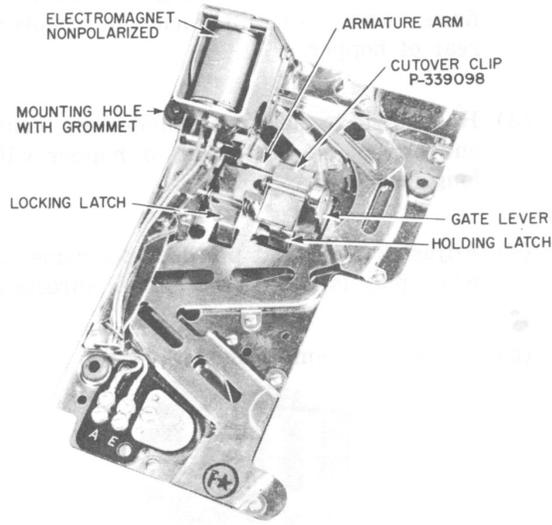

Fig. 12 — Prepay Steel Coin Chute (Equipped with Cutover Clip for 5-Cent Service)
- (1) Place coin relay shield on coin relay.
- (2) With upper housing locked in place and handset off-hook, deposit nickel. Nickel shall be held at holding latch. Lower switchhook slowly. Coin shall drop into coin return. Make test five times.
- (3) If coin collector is equipped with washer reject and coin release mechanism, test with handset off-hook. Deposit nickel. Nickel shall be held at holding latch. Operate pushbutton slowly. Nickel shall be released by gate and drop into coin return. Make test five times.
- (4) With handset off-hook, deposit nickel. Nickel shall be held at holding latch. Deposit second nickel. Second nickel shall release first nickel and permit both coins to pass through coin chute, strike gong, and trip trigger as they drop into hopper. Dial tone shall be heard at dial stations, or operator shall answer at manual stations. Deposit third nickel. Third nickel shall pass through coin chute, strike gong, and reach trap in coin hopper.
- (5) At dial stations, when dial tone is heard, dial any digit except 1 to break dial tone; then hang up handset. Coins shall drop into coin return on hang-up. At manual stations, when operator answers, request that coins be returned.
- (6) With handset on-hook, deposit dime. Dime shall pass through coin chute, strike gong twice, and trip trigger. Dial tone or manual operator shall be heard after handset is removed from switchhook.
- (7) With handset off-hook, deposit dime. Dime shall pass through coin chute, strike gong twice, and trip trigger bringing in dial tone or manual operator.
- (8) With handset on-hook, deposit quarter. Quarter shall be stopped by the open gate. Remove handset from switchhook. Gate will close and quarter will release and strike gong. Dial tone or manual operator should be heard.
- (9) With handset off-hook, deposit quarter. Quarter shall pass through coin chute, strike gong, and trip trigger bringing in dial tone or manual operator.
- (10) If cutover clip is used for 5-cent operation, initial nickel deposited shall not be held at holding latch. All other tests are the same as above (see Fig. 12).